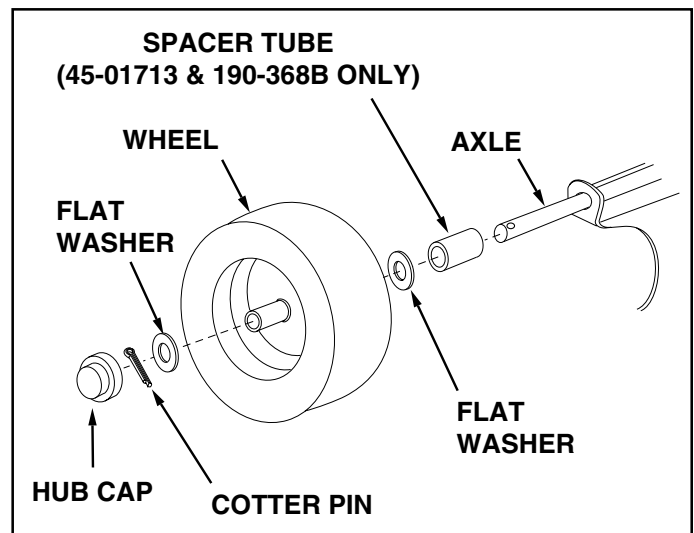

FIGURE 12
17. Place a spacer tube onto each end of the axle (models 45-01713 & 190-368B only). See figure 12.
18. Assemble a flat washer, a wheel with the valve stem facing out, and another flat washer onto the axle as shown in figure 12. Secure the wheel on the axle with a cotter pin, spreading the ends of the pin around the axle. Press a hub cap onto the flat washer. Repeat on other end of axle.